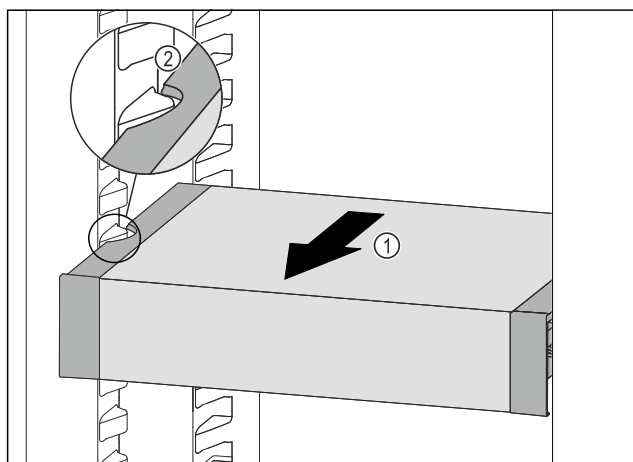

Fig. 111
- Pull VarioSafe forwards Fig. 111 (1) until the recesses in the side of the VarioSafe are at the level of the support rib in the fridge section. Fig. 111 (2)